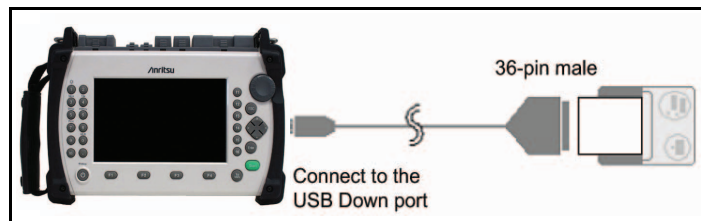

Figure 6-31: Connecting the BL-80R11 Printer
1. Connect the BL-80R11 or SD1-31 printers to the MT9083 Series as shown in Figure 6-31, and then power up the printer.